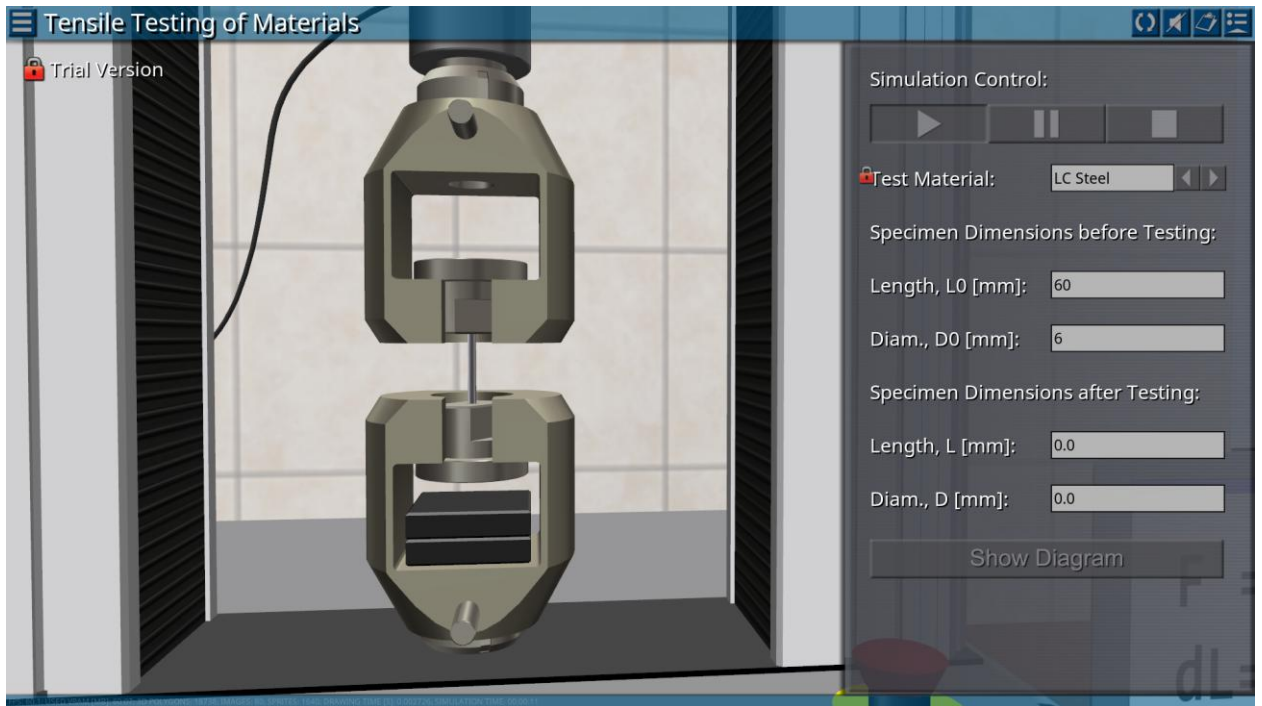

Fig. 7 – An example of displaying the options bar on the right side of the screen
The reset button (1) of the lab setup is intended to return the virtual lab to its original state. Using the button (2), the user can disable/enable the sound. Pressing the button (3) generates a report with the results of the measurements performed in the CSV-table format. In the desktop version of the application, the report is automatically opened by a program associated with this file type (for example, Microsoft Excel). In the web version, the report file is downloaded using the standard web browser file download function. Data is written to the report as the experiment runs. At the same time, in most laboratory work, the event of recording the measurement result into report is accompanied by a characteristic sound signal. Button (4) is designed to show or hide the main panel of laboratory parameters. Each lab has its own set of parameters displayed on the panel (Fig. 7).